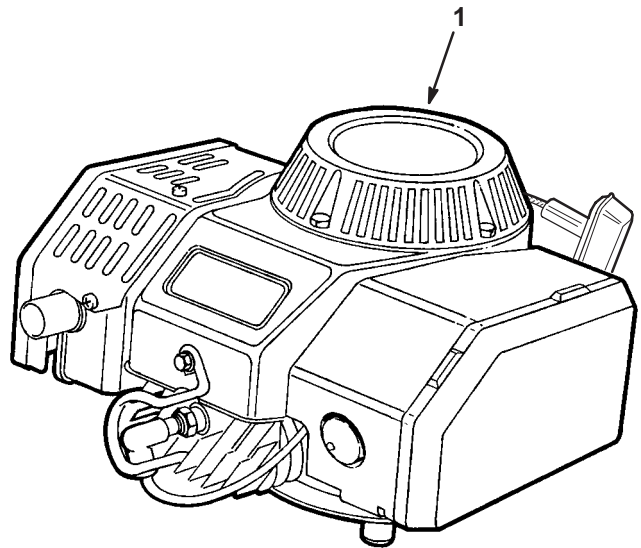

Figure 4
1. Remove the recoil assembly (Fig 4).
2. Rotate the recoil assembly 90 degrees clockwise, then reassemble the recoil assembly to the engine (Fig 4).